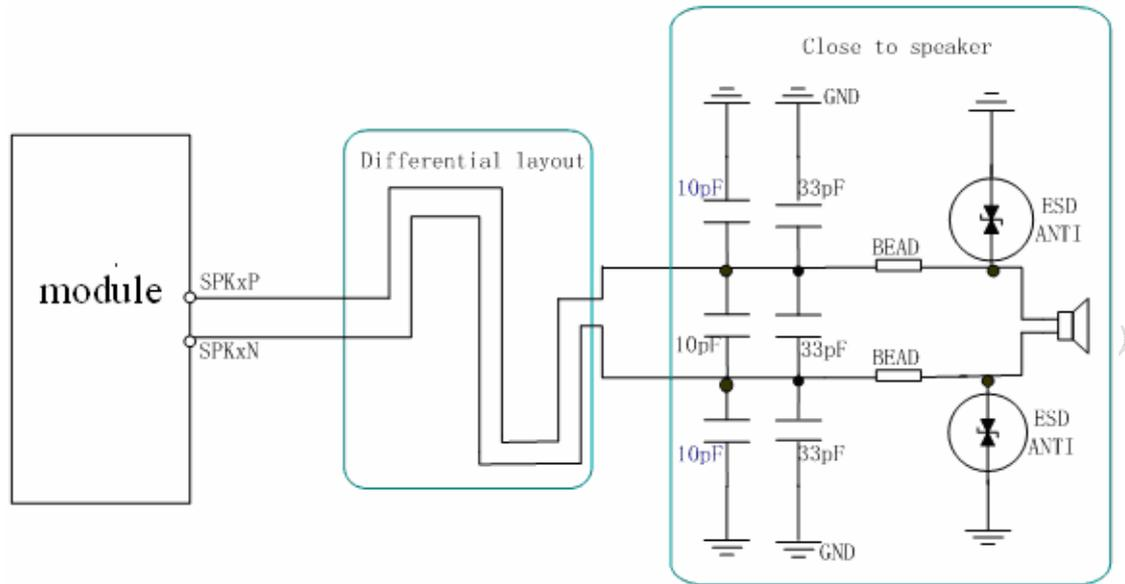
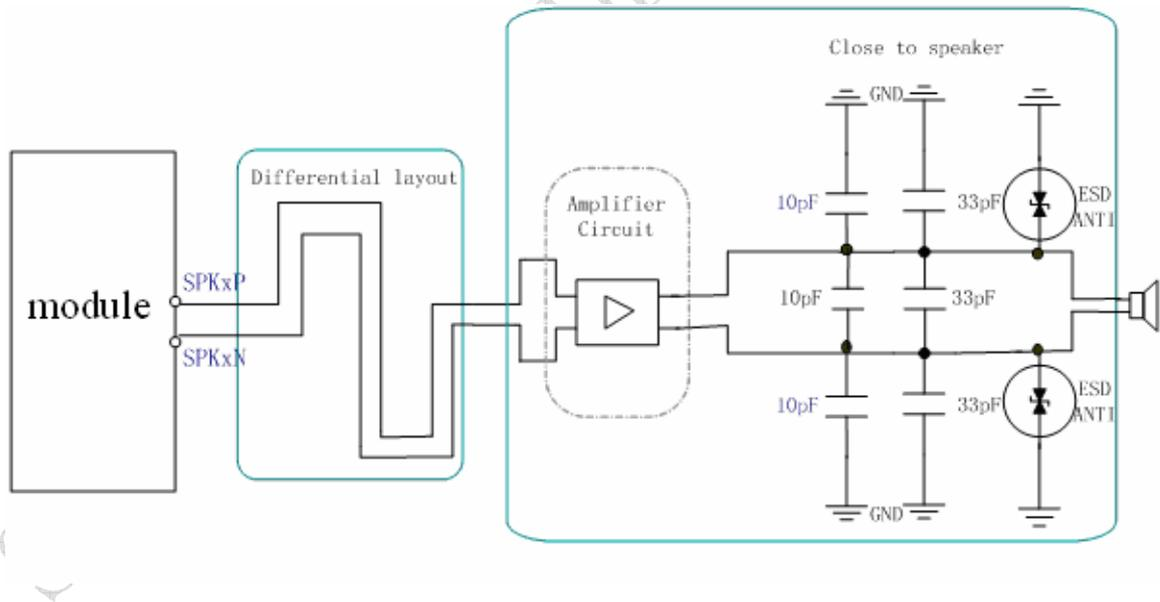
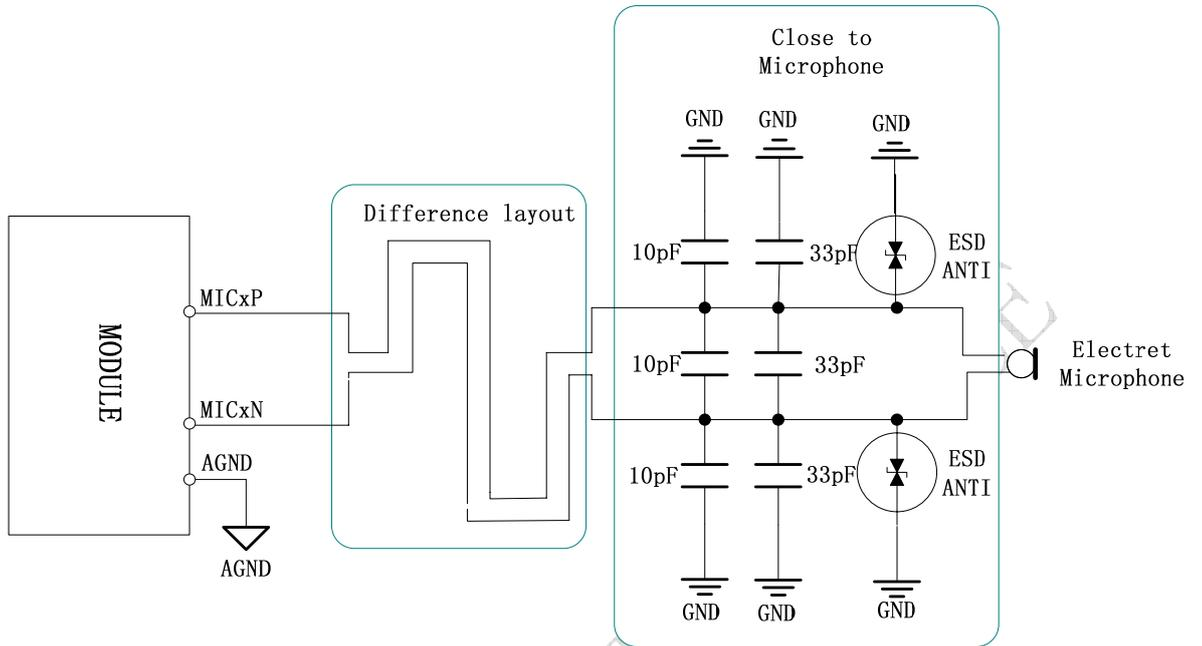
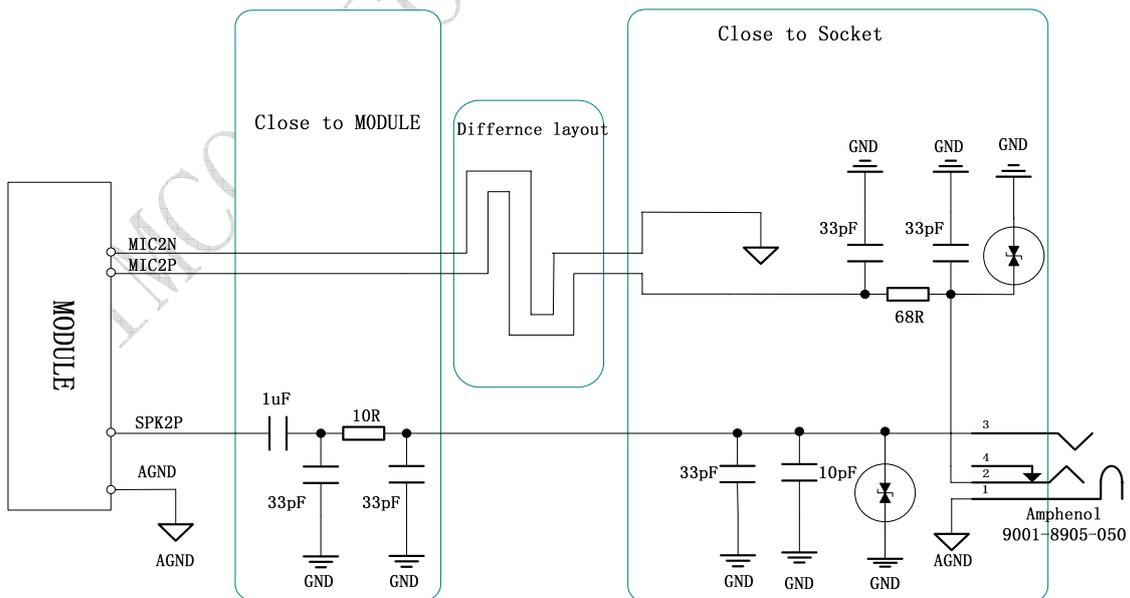

Figure 15: Speaker interface configuration
Figure 16: Speaker interface with amplifier configuration
Figure 17: Microphone interface configuration
Figure 18: Earphone interface configuration
*As show in Figure 15, Figure 16, Figure 17, Figure18 (Note : all components package are 0603). BEAD must have low impedance and can be removed according to their environment such as the ground plane, shielding, power lost. The best way is to plan all the components shown in the follow figure. If you want to adopt an amplifier circuit for audio, we commend National company's LM4890. But you can select it according to your needs.*